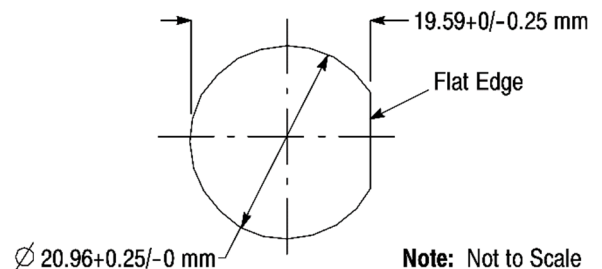

Figure 11
1. Cut the panel using the dimensions provided in Figure 11.
4. Thread the jam nut onto the housing. See Figure 11, Detail A. Using the jam-nut socket and torque wrench, tighten the jam nut to a torque between 4.5 to 5.2 N·m (40 to 46 in·lb.). The O-ring should now be compressed.